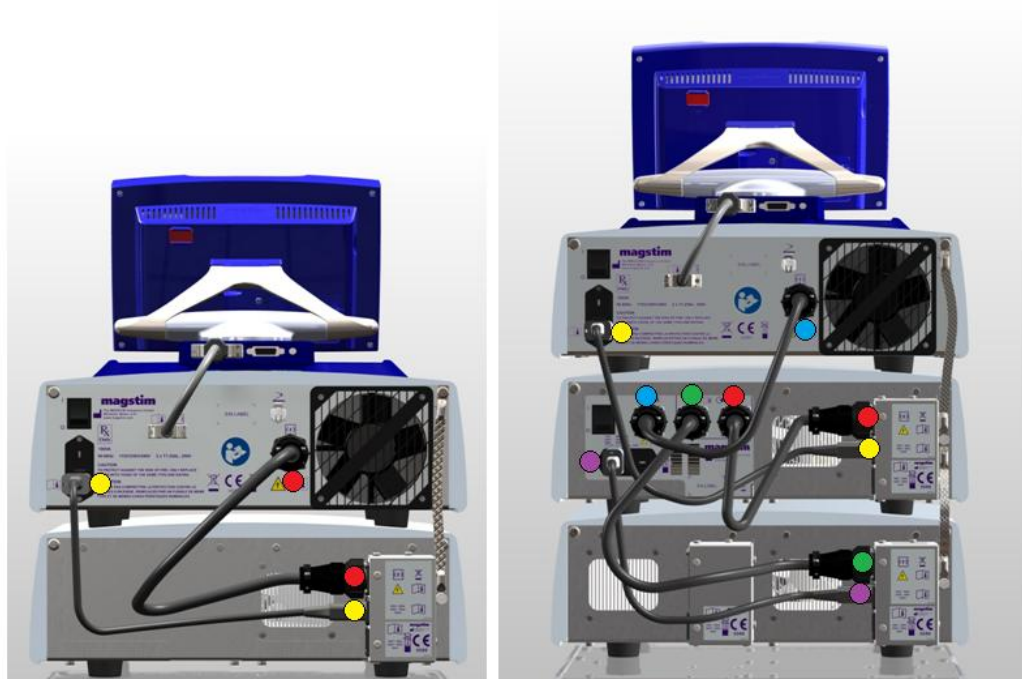

Figure 4.2: Colour coded cable connection (Left Rapid2/Super Rapid, Right Rapid2 Plus1)
4. Connect the HV cable(s) provided (See Figure 4.2 for reference).
5. Connect the 10A link leads provided (See Figure 4.2 for reference).